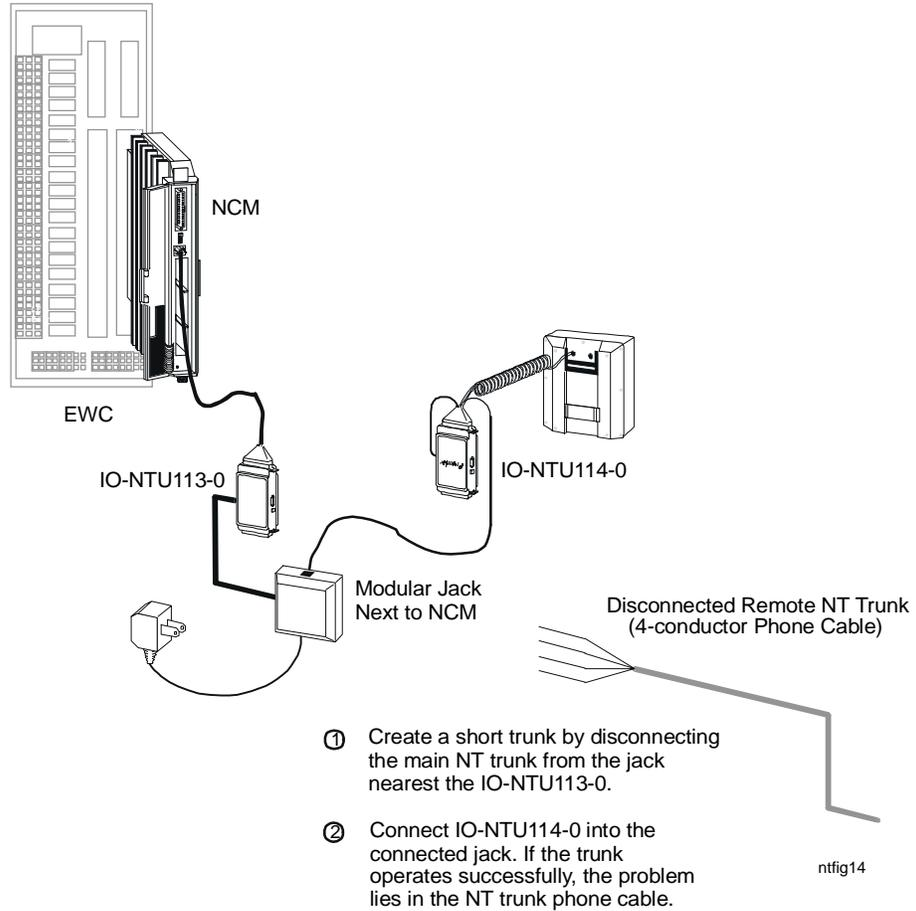

Figure 14: Creating a Temporary Trunk to Check Wiring
The flowchart in Figure 13 isolates problems in the RNT configuration to a specific component (modems, wiring, or power supply). Figure 14 illustrates one of the procedures referred to in the RNT troubleshooting flowchart.
- Note C: Isolate the problem to the wiring by setting up a 5-foot test trunk line, according to Figure 14. You can also check the line continuity by shorting two pairs on one end and measuring the resistance on the other end. The ohm value should drop significantly.